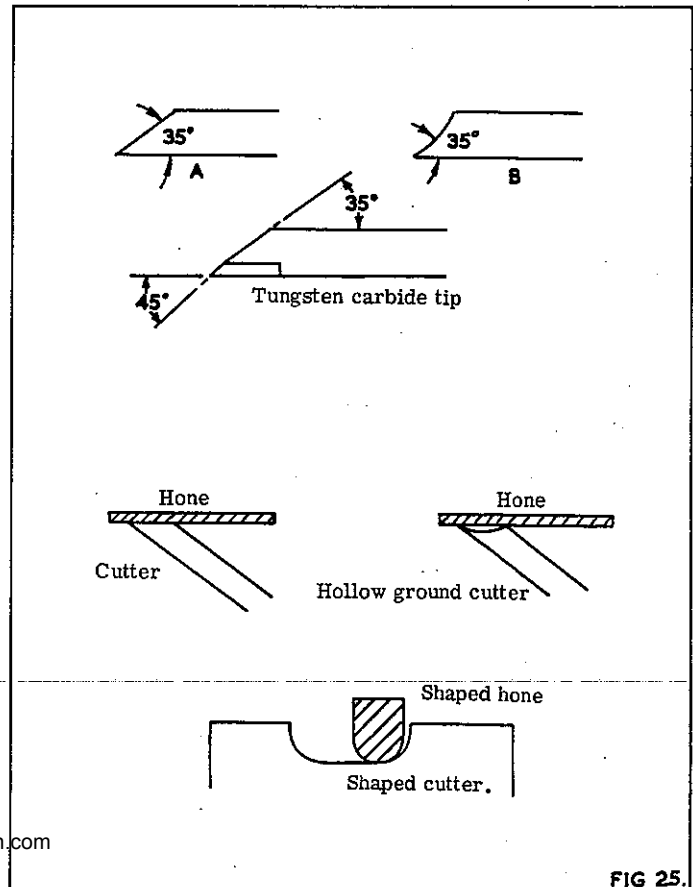

FIG 25.
The correct cutting angle of 35° for most cutters should be maintained as this gives the correct strength of the cutting edge. When hollow grinding is carried out, the angle of the cutting edge, should be kept as near 35° as possible, see Fig. 25 (A) and (B).